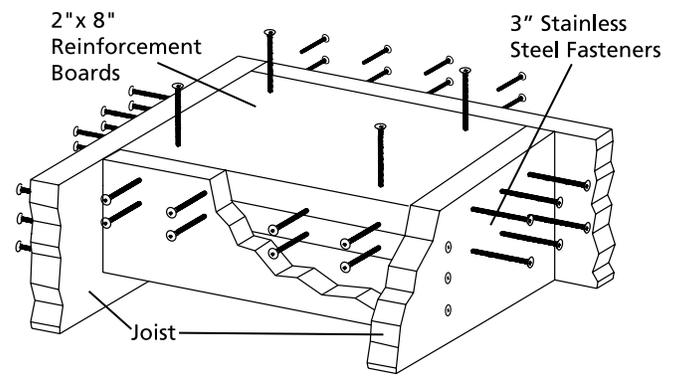
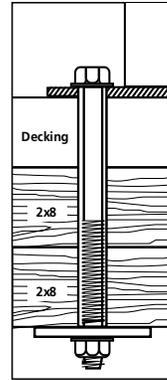

Figure 7
Figure 9
2. The thickness of the wood/composite deck and reinforcement boards underneath the deck should be a minimum of 4". (Two treated and structurally sound 2" x 8" lumber under the deck board, (Figure 9). Fasten the reinforcement boards with 3" stainless steel fasteners as shown (Figure 7).
11. Fasten the four bolts underneath the reinforcement boards with the 5/16" Fender washer (included in kit) and 5/16" galvanized hex nuts (not included) (Figure 9).
2. Thickness of wood/composite deck and reinforcement boards underneath deck should be a minimum of 4". (Two treated 2" x 8" lumber under the deck board). Fasten reinforcement boards with 3" stainless steel fasteners as shown (Figure 7).